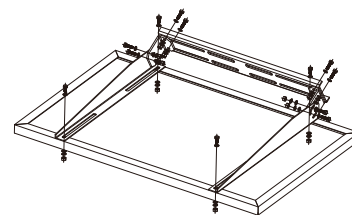

figure 1
Step1. Attach the PV module to the mounting bracket using the nuts, bolts, washers, and lock washers provided. See **figure 1**. Caution: If additional holes on the frame of the PV module are needed, great care must be used when drilling. Damage to the module can easily occur rendering it useless. You may find it helpful to lubricate the nut and bolt to facilitate easy removal at a later date.